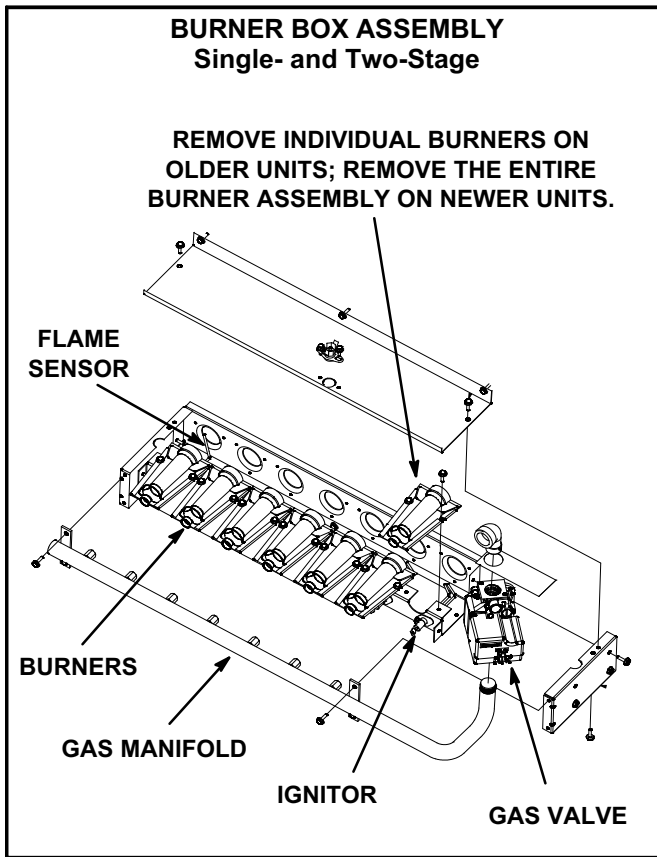

FIGURE 33
- 4- Remove screws securing burners to burner support and lift the individual burners or the entire burner assembly from the orifices. See figure 33 or 34. Clean as necessary.